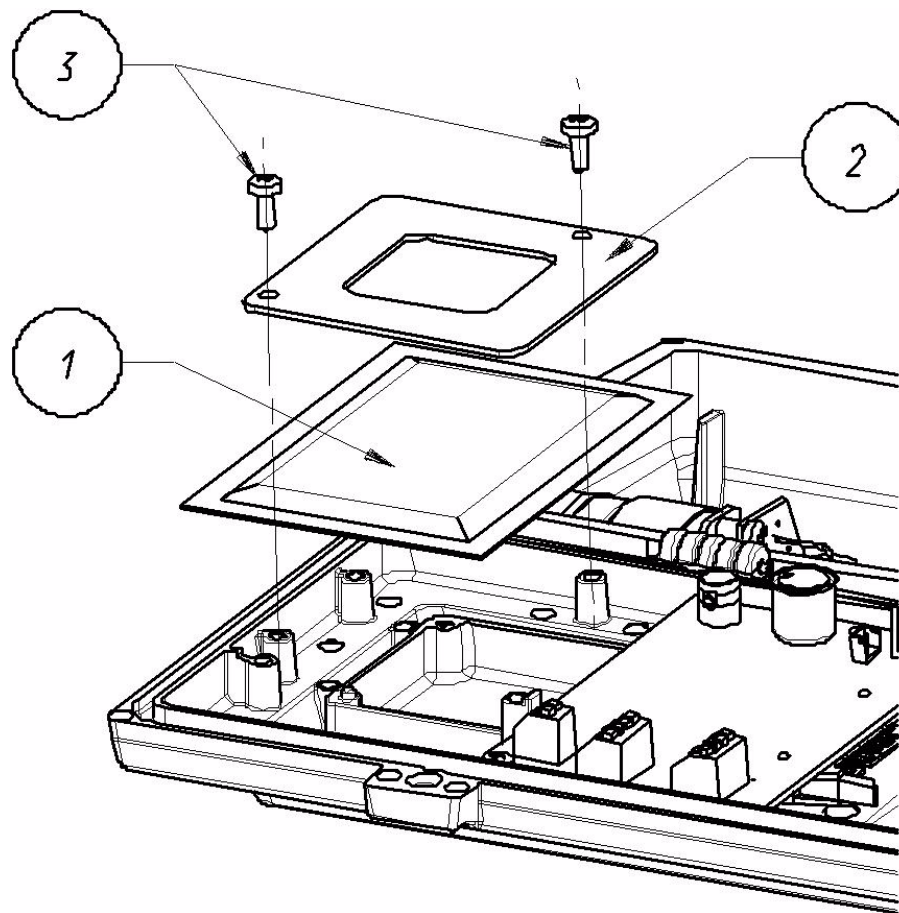

Fig. 6.1 Salt Bag Placement
1. Place the salt bag inside the housing as shown in *Figure 6.1*, with the salt bag secured into position by the metal fixing accessory and two fixing screws (supplied in small box of accessories).